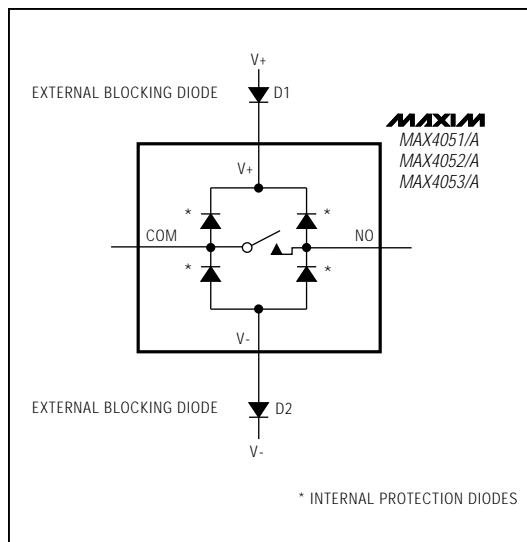

Figure 1. Overvoltage Protection Using External Blocking Diodes
Proper power-supply sequencing is recommended for all CMOS devices. Do not exceed the absolute maximum ratings, because stresses beyond the listed ratings can cause permanent damage to the devices. Always sequence V₊ on first, then V₋, followed by the logic inputs (NO) and by COM. If power-supply sequencing is not possible, add two small signal diodes (D1, D2) in series with the supply pins for overvoltage protection (Figure 1).